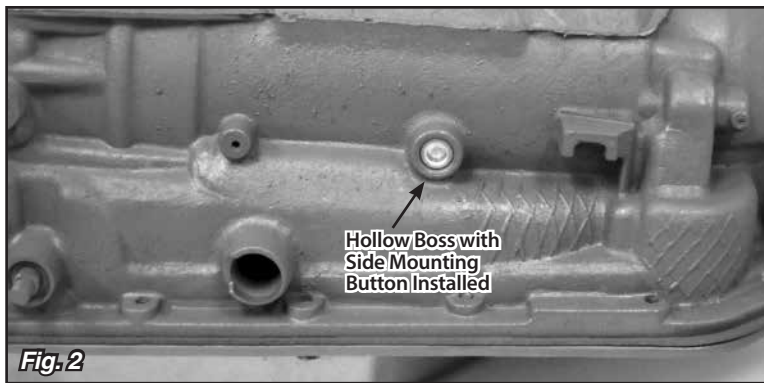

Fig. 2
**Step 2:** In the Lokar Shifter Kit you are supplied with two aluminum side mounting buttons that are approximately 5/8" in diameter. Your transmission has two round, hollow bosses cast into the case, one on the driver's side and one on the passenger's side. Clean any paint or debris out of these bosses, and install the side mounting buttons into the bosses with the flat side in toward the transmission case. **Fig. 2**